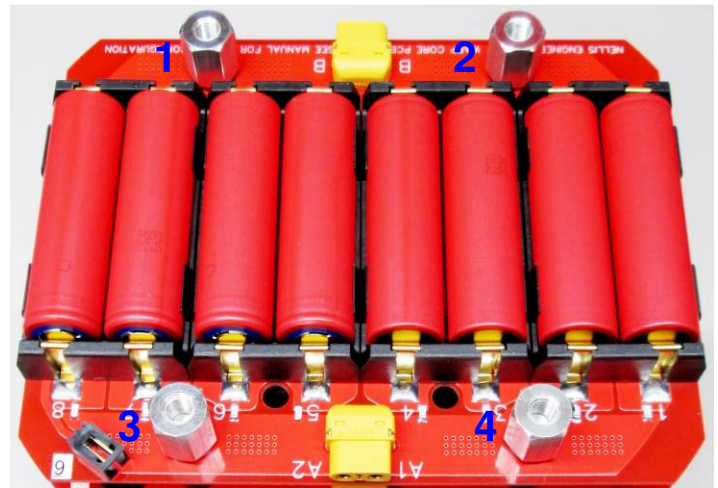

Figure 18
4. Remove 4 threaded hex spacers from top battery layer and 4 black plastic washers (Figure 18) Place out of the way until needed for assembly.